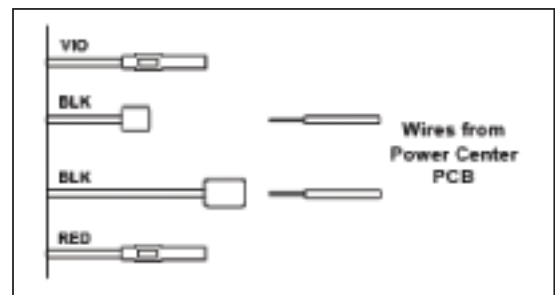

Figure 3-20 — Wiring with AquaLink RS
3. Connect two #14 gauge wires, designed for use in hot environments, to the two black wires, marked heater connection, on the panel-mounted receiver in the I-Wave Control Center and attach the other end to the two black wires on the heater. (See Figure 3-20.)